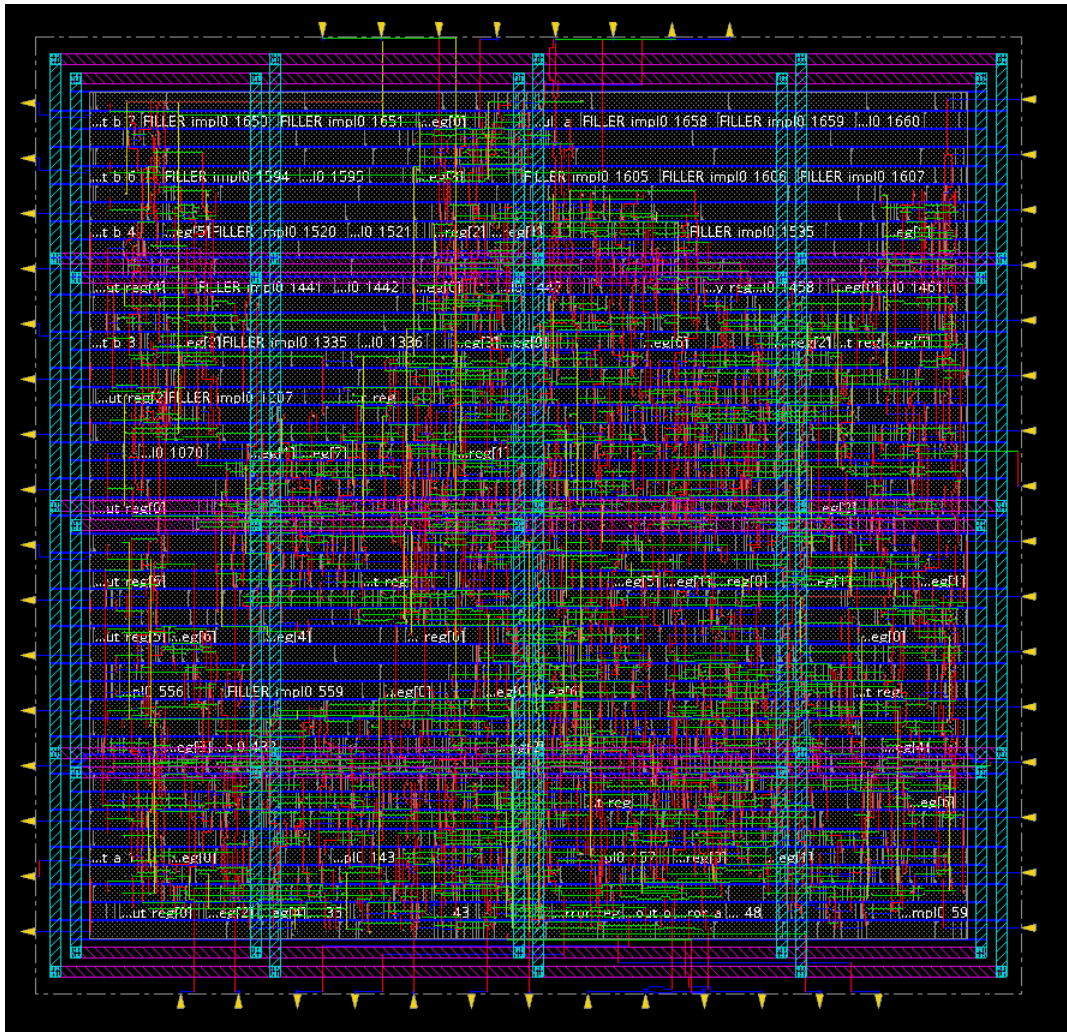

Figure 8: Design after filler cell placement
- Your design should now look similar to the design shown in figure 8.